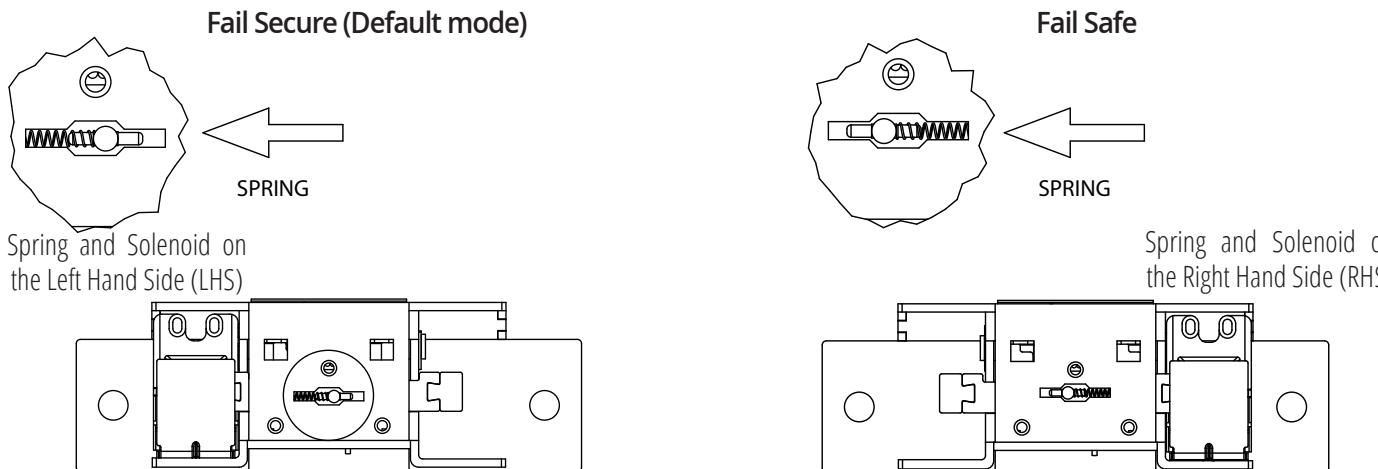

Figure 6.2
4. Remove the tiny spring, shift the slider to the other side, and reinsert the spring. By-default the spring must be located to the Left Hand Side (Fail - secure mode) (See Figure 6.2)